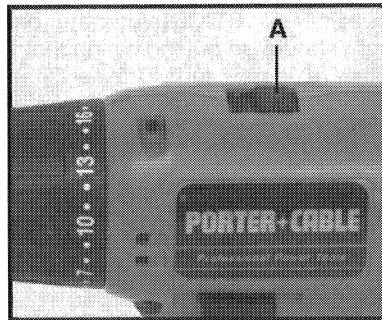

Fig. 4
The Model 874 Cordless Driver/Drill has a two-speed gear shift which provides spindle speed ranges of approximately: 0 to 400 RPM (LOW) and 0 to 1450 RPM (HIGH). To change speed ranges: release trigger switch to stop motor and then slide speed selector (A) Fig. 4, toward rear for HIGH speed or toward front for LOW speed.